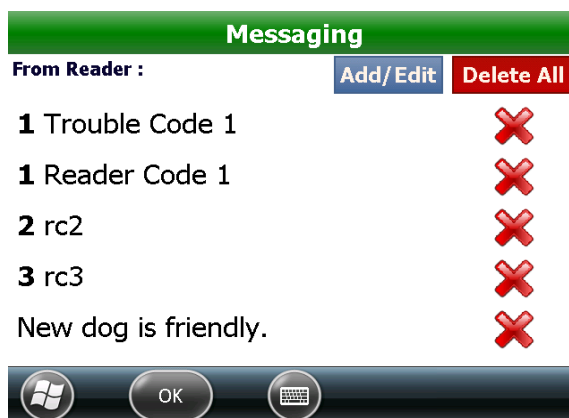

Figure 30: Messaging screen
*Result: The selected code displays on the Messaging screen (Figure 30).*
*Result: The Comment displays on the Messaging screen (Figure 30).*